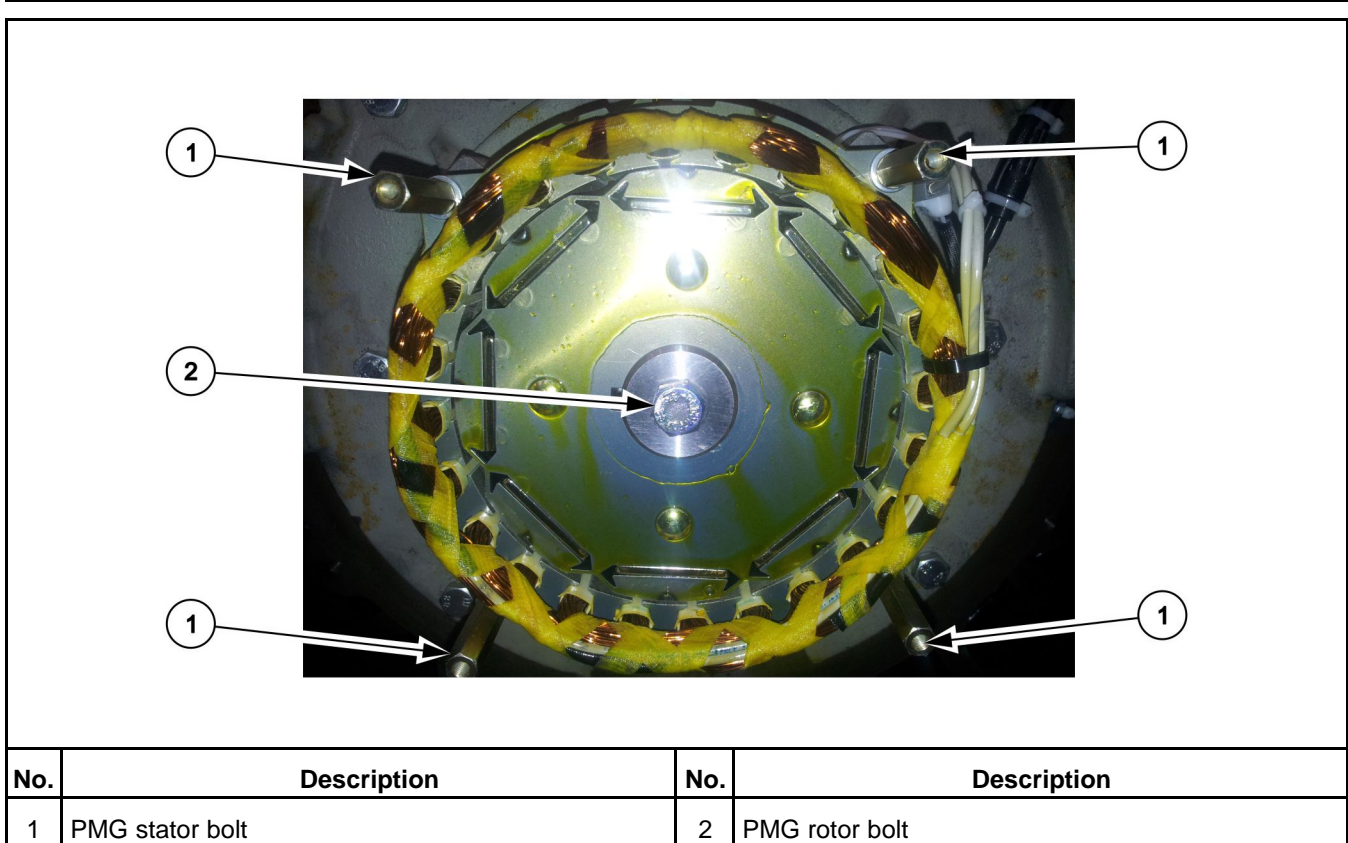

FIGURE 50. STATOR AND ROTOR BOLTS
5. Remove four bolts (1, Figure 50) from the PMG stator.
6. Remove one bolt (2, Figure 50) from the PMG rotor.